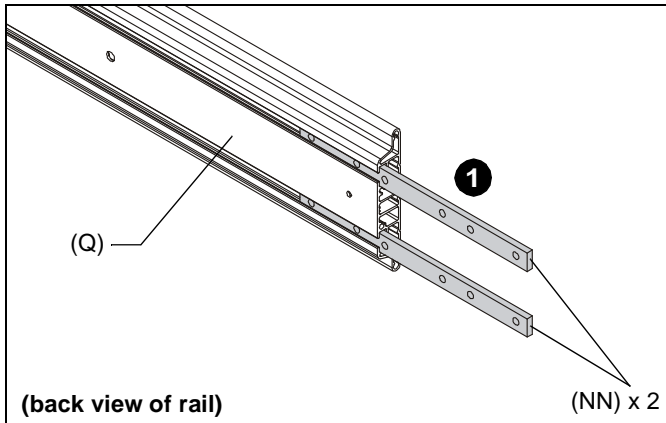

Figure 10
1. Insert two tie bars (NN) into the slots on one section of mounting rail (Q). (See Figure 10)